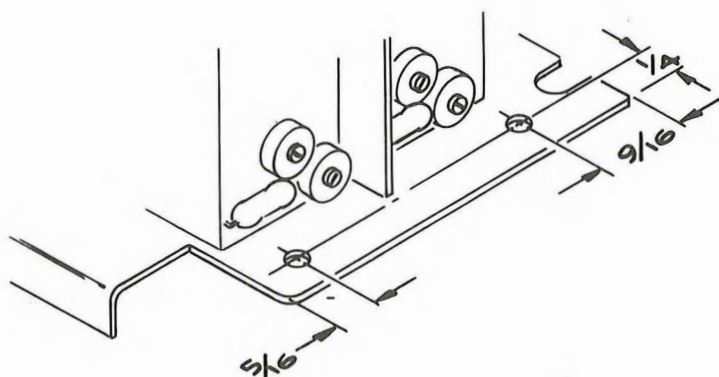

Fig. 6 3A1
- ( ) Drill two 5/32 in. holes in the shield as indicated in Fig. 6.